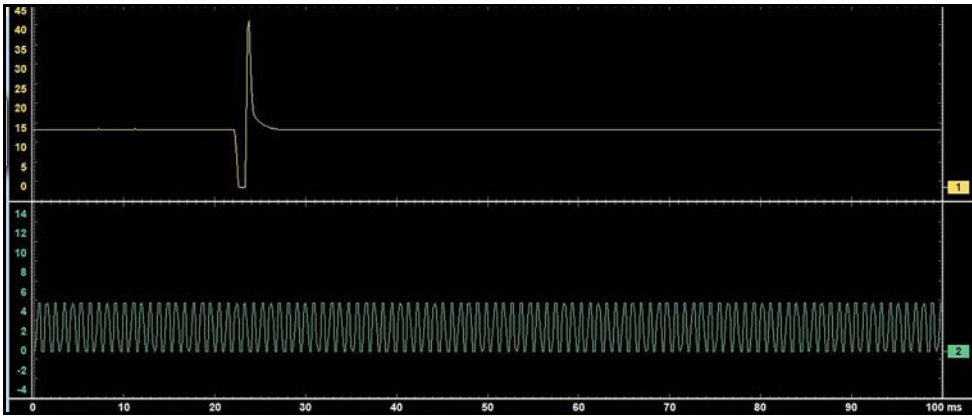
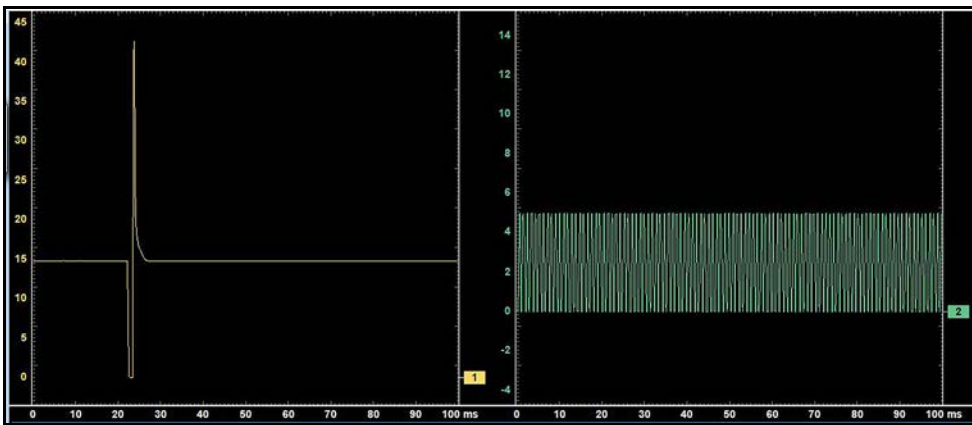

Figure 8-18 Sample 2 Windows horizontal display
Figure 8-19 Sample 2 Windows vertical display
- **2 windows**—shows two separate traces in two ways: horizontal, one below another (Figure 8-18) or vertical, side-by-side (Figure 8-19).